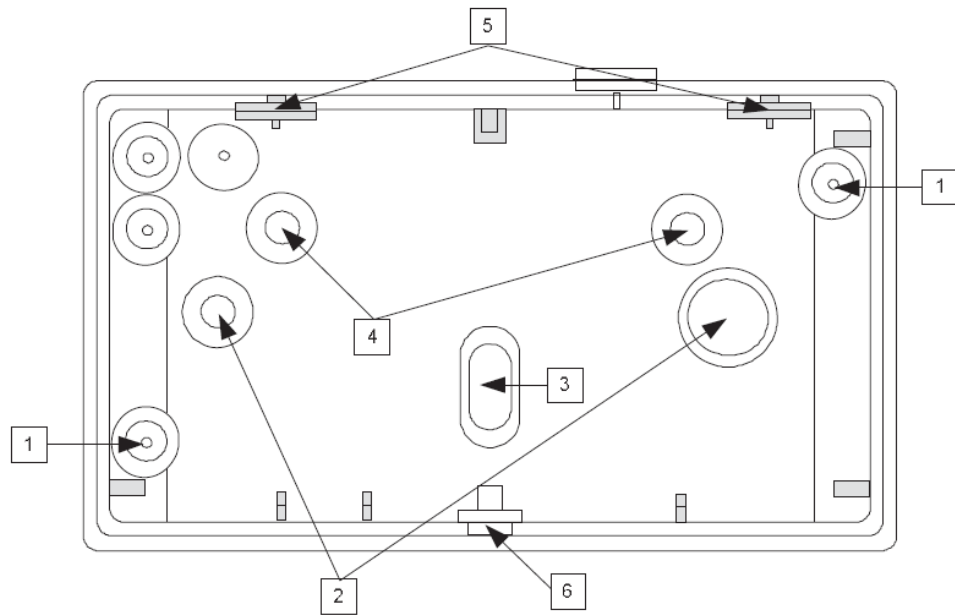

Fig 7: Wireless VITRON Mounting Knockouts
2. Open the required mounting knockouts, according to the type of installation (corner, flat or swivel mounting, see Fig. 7)
- If a back tamper protection is required open the back tamper knockout (3, Fig. 7)
2. Open the swivel mounting adaptor knockouts (4, Fig 7).